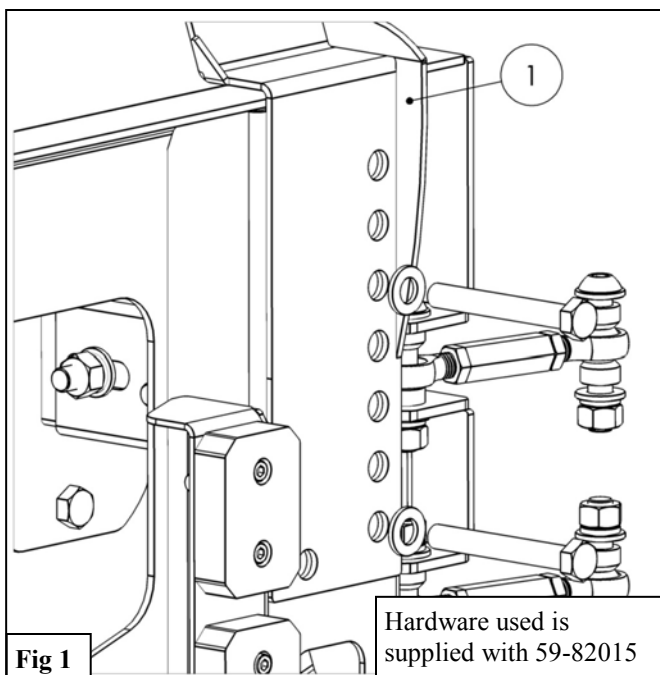

Fig 1
3. Use the M12 Hardware from the WJ2 Tire Carrier to loosely install the RotoPax Mount (1). See **Figure 1**.